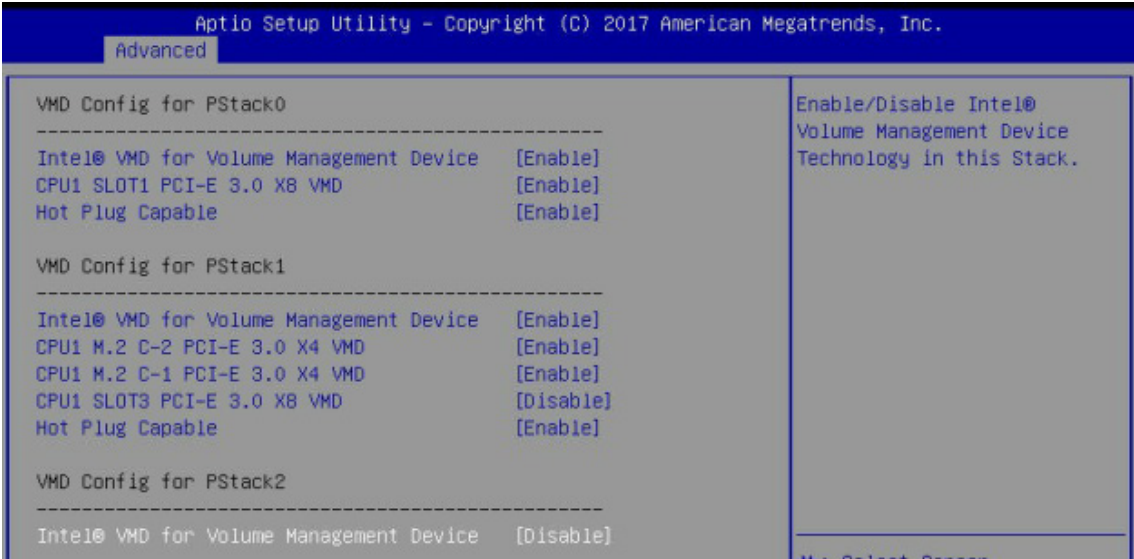
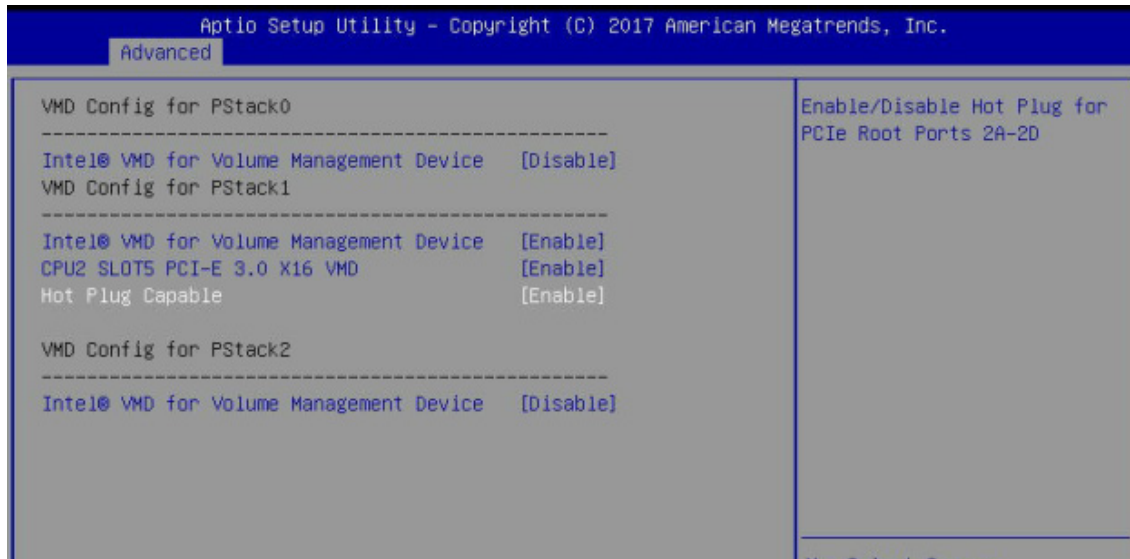

Figure 6-11. BIOS, Enabling CPU1 Example
Figure 6-12. BIOS, Enabling CPU2 Example
- 5. Repeat steps 3 and 4 for each PStack# on each CPU to be enabled or disabled. In this example, we enabled CPU1 Slot1 (Figure 6-11) and CPU2 Slot5 (Figure 6-12) (four U.2 form factor SSDs), as well as CPU1 M.2 C-1 and CPU1 M2. C-2 (two M.2 form factor SSDs)